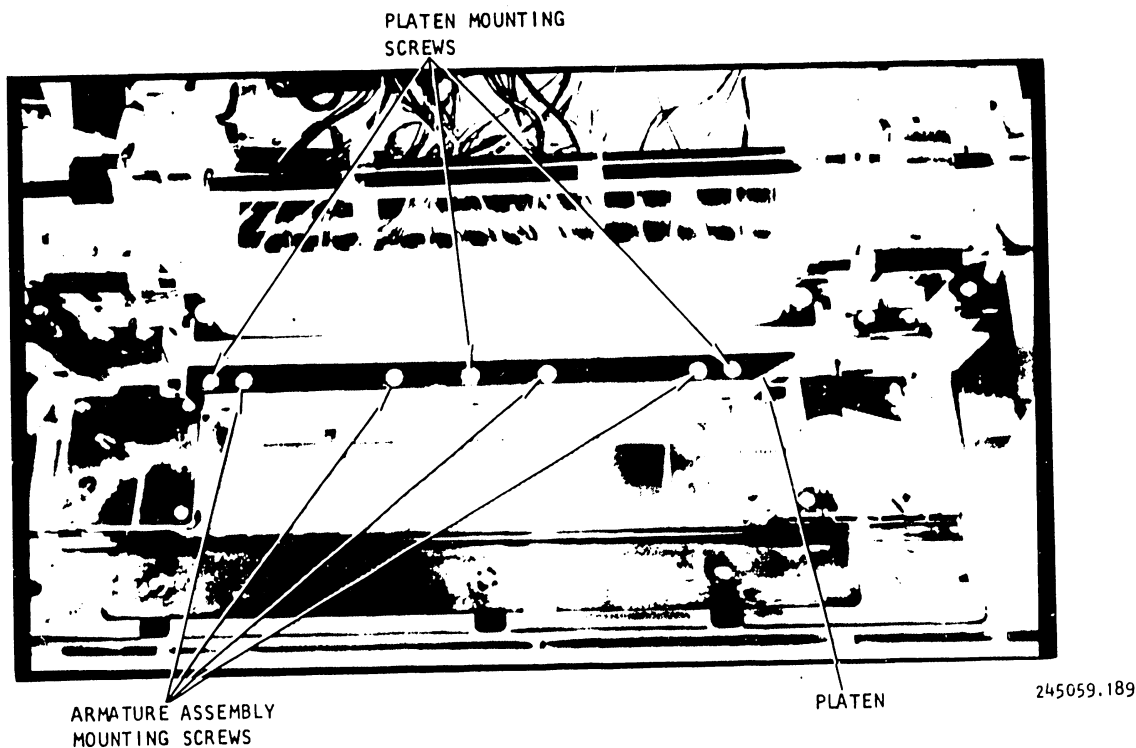

Figure 3-21. Paper Clamp Armature Assembly (Thick Platen)
- i. Slide the armature assembly under the platen and secure it with the four (4) screws loosened in **step g**. See **figure 3-21**.
- f. Using a 3mm hex driver, remove the four (4) screws which secure the Paper Clamp Armature Assembly to the mechanics frame. See **figure 3-21**.